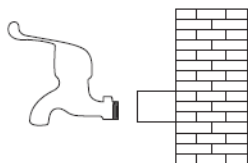

Figure 1
1. Shut off the water supply and remove the tap valve. (See figure 1)